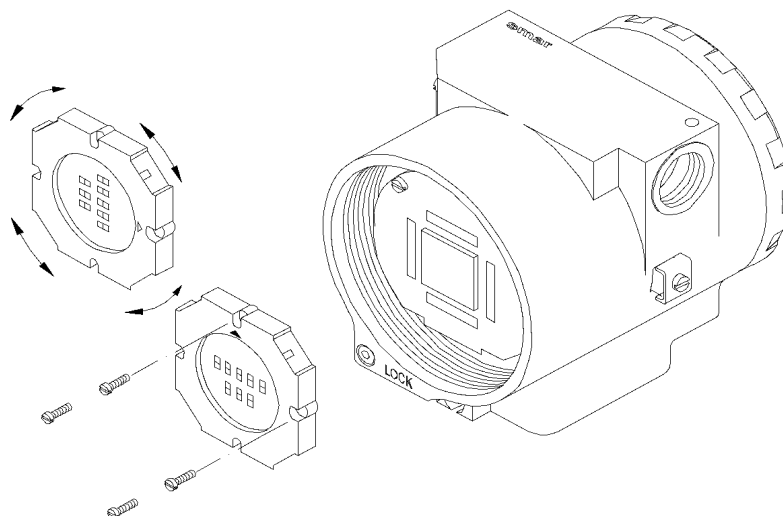

Figure 6.2 – Four Possible Indicator Positions
- Insert the output signal board into the housing (5) and fasten it with its screws.
- Insert the main board (3) in the housing, making sure that all the pins are connected.
- The display may be mounted in any of the 4 possible positions (see Figure 6.2). The “▲” sign indicates the display upper position.
- Hold firmly the main board and the display with their screws (3).
- Fit the cover (1) according to the area classification and lock it with the locking screw (4).